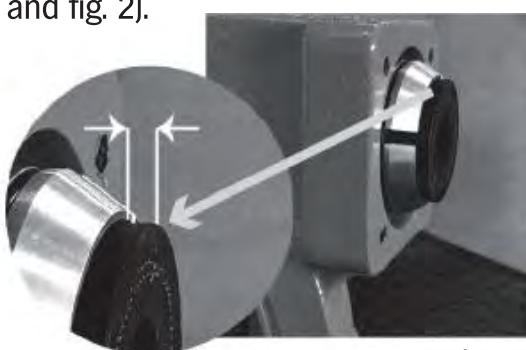

Fig. 1
6. Lay the press rings. Between the end of the hose and the press ring, there must be an specific distance (see fig. 1 and fig. 2).
Pump model	Approximate distance outside press ring (Fig. 1)